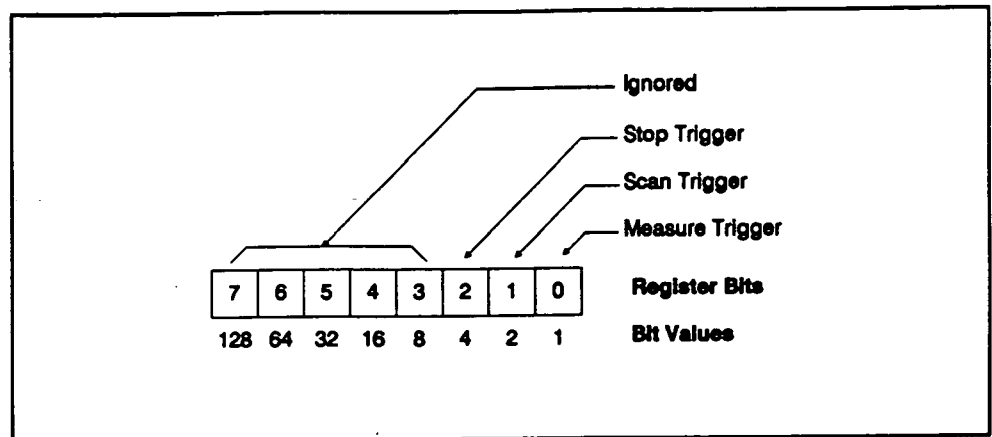

Figure 8-6. Trigger Register
**Writing to the Trigger Register** The Trigger register allows the mainframe or the GPIO controller to generate single scan, measure, or stop triggers. The register may be written to at any time except during the first 750  $\mu$ sec immediately after reset. Figure 8-6 shows the Trigger register bits.
You can write to the Trigger register over HP-IB or over GPIO. Use SWRITE to write to the register over HP-IB or use CONTROL statements to write to the register over GPIO. From Figure 8-6, note that writes to bits 3 through 7 of the Trigger register are ignored.